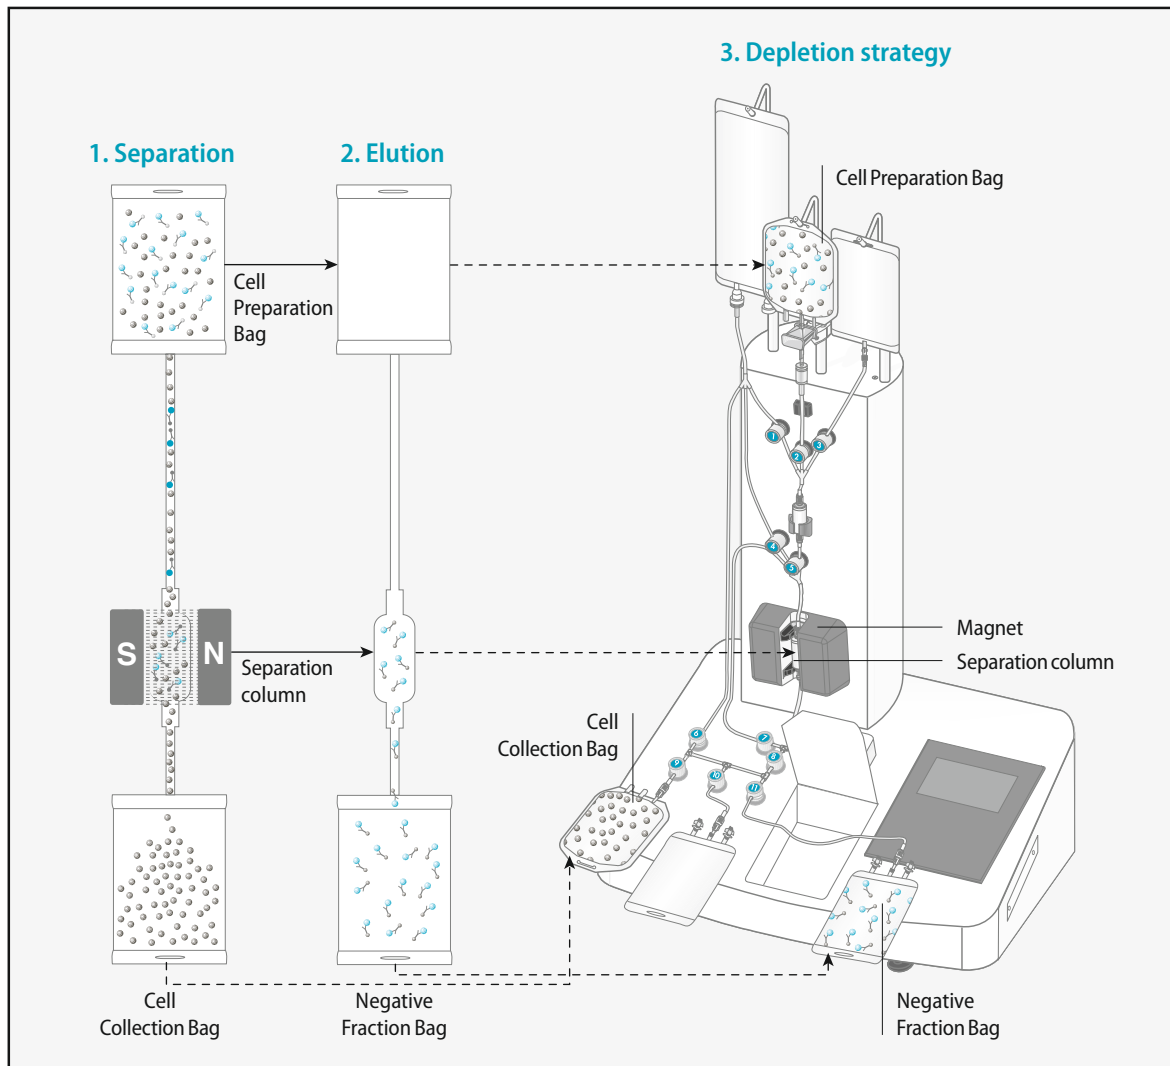
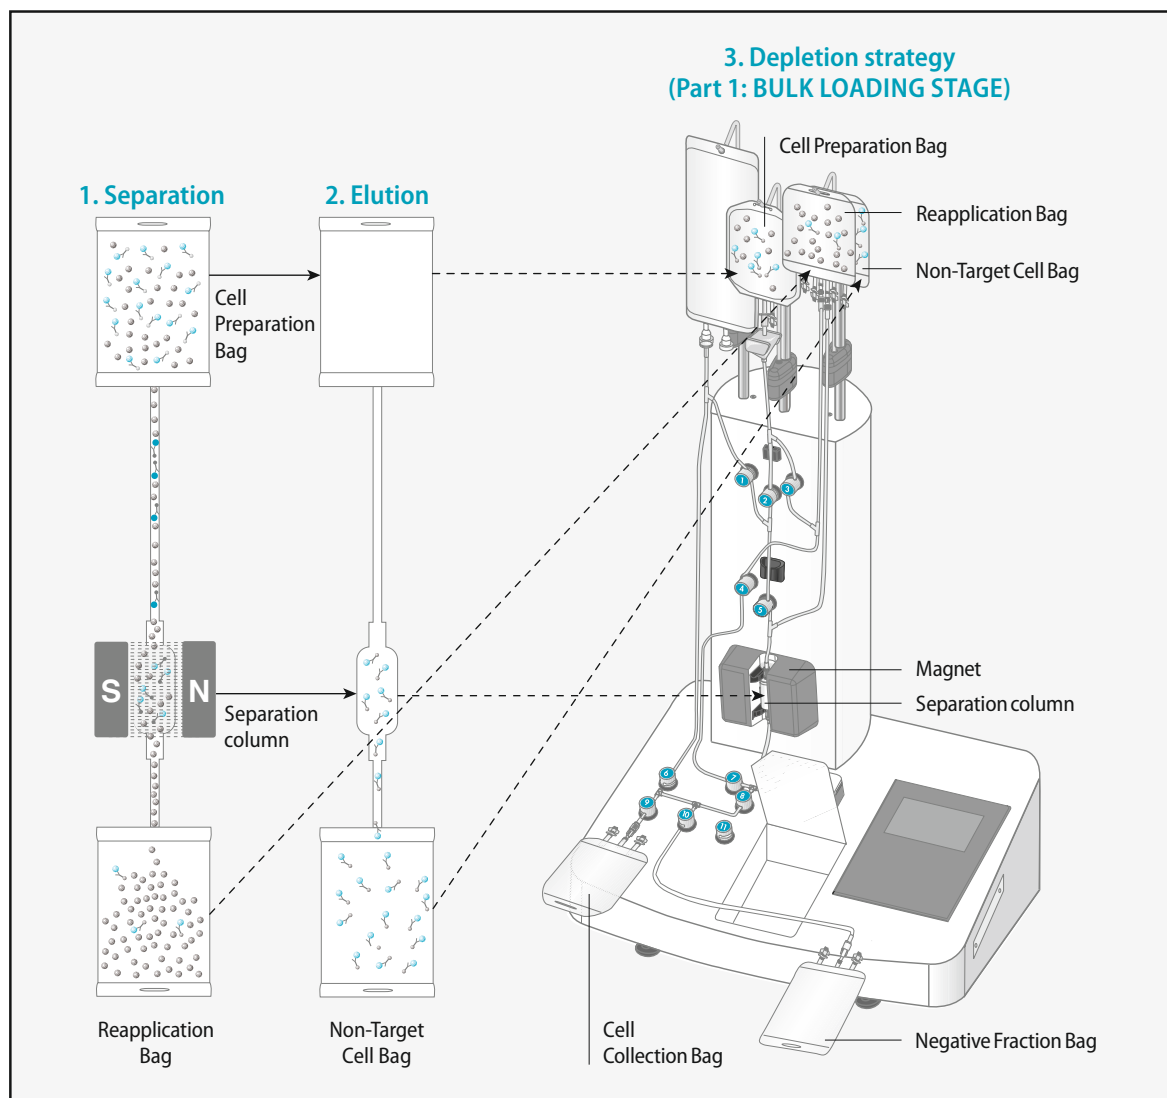
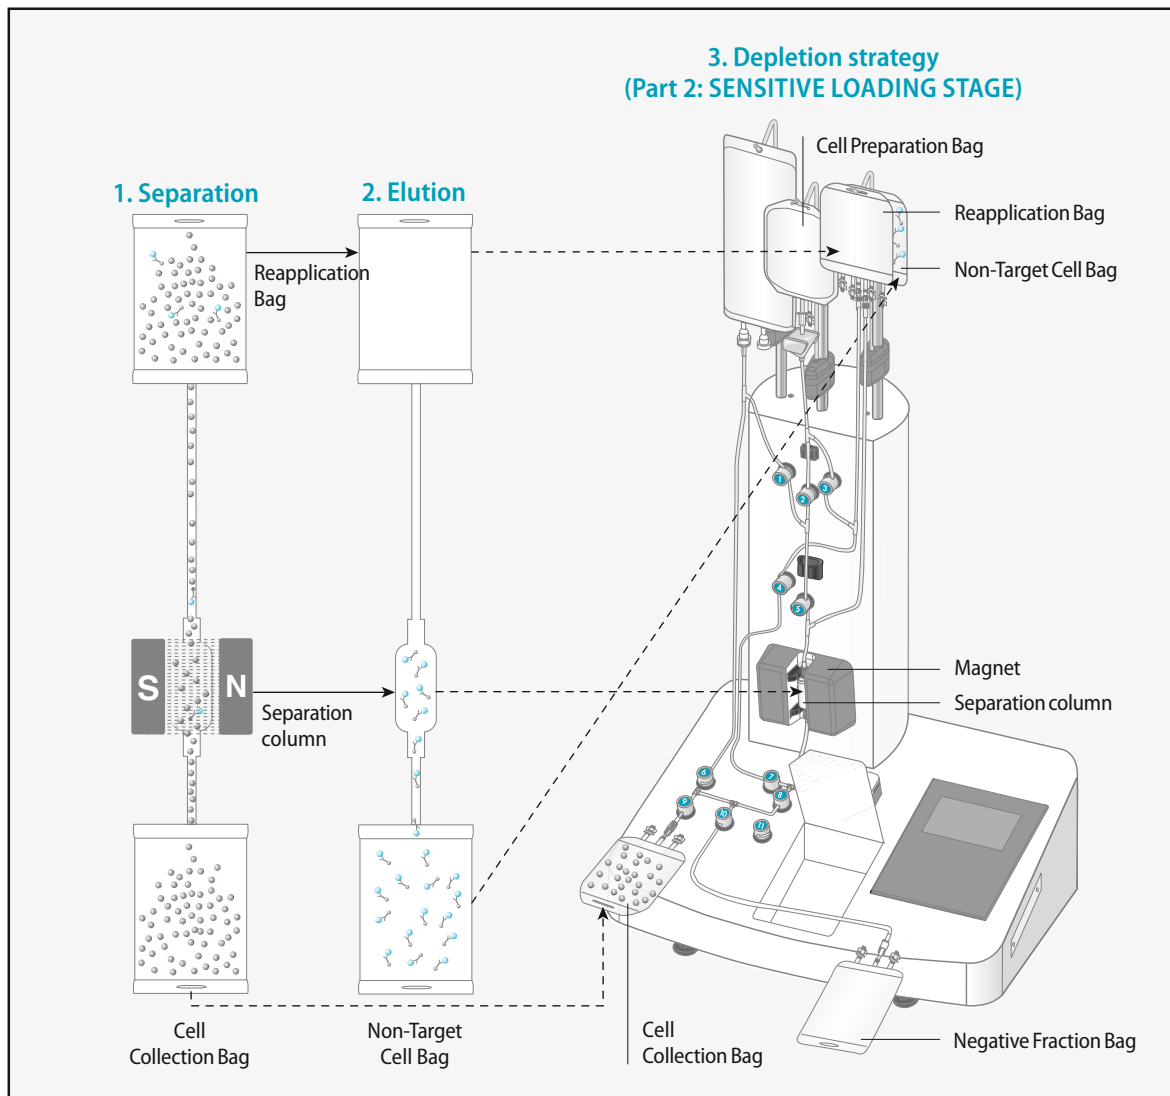

Figure 3.4: Strategy of the depletion program DEPLETION 2.1 using the CliniMACS Tubing Set LS
Figure 3.5: Strategy of the depletion program DEPLETION 3.1 using the CliniMACS Depletion Tubing Set
Figure 3.6: Strategy of the depletion program DEPLETION 3.1 using the CliniMACS Depletion Tubing Set
The MACS Technology is also very efficient for depleting specific cell populations. Unwanted cells are specifically labeled with super-paramagnetic particles and separated from target cells upon passage through the high-gradient magnetic column. In contrast to the enrichment strategy, the **non-labeled cells** (target cells) are collected in the **Cell Collection Bag** and the **labeled cells** (non-target cells) are collected in the **Negative Fraction Bag** (see Figure 3.4) or in the **Non-Target Cell Bag** (see Figure 3.5 and Figure 3.6) respectively.
3. The **depletion program** (DEPLETION 3.1) retains the magnetically labeled cells in the separation column, the **non-labeled target cells** (target cells) flow through the column and are collected in the **Reapplication Bag** in order to be reloaded onto the separation column in a second SENSITIVE LOADING STAGE (see Figure 3.6). When the magnet is moved into the "OFF"-position, the **magnetically labeled cells** (non-target cells) are released from the column and collected in the **Non-Target Cell Bag**.